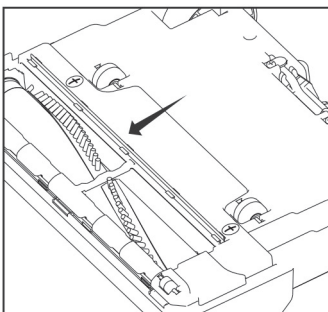

Fig. 4
Your vacuum is equipped with a squeegee on the bottom of the vacuum to improve its effectiveness in cleaning bare floors (Fig. 4). When cleaning tile, hardwood, vinyl, etc., use the "On" setting (I) for best results.